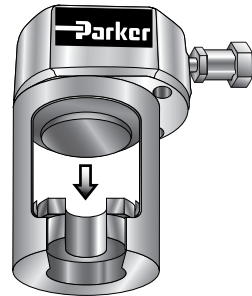

Figure 50
2. Insert "U-shaped" Nut die into the Nut Die Adapter of the Hydraulic Ram as shown in Figure 50.